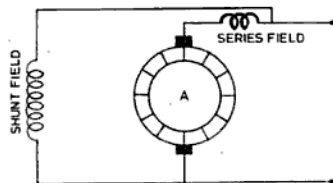
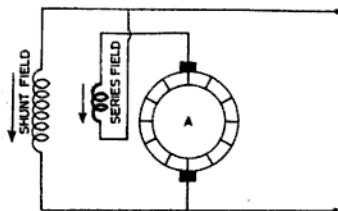

Fig. 7.25 Long-shunt compound generator
Fig. 7.26 Long-shunt commulative compound generator
- (ii) **Long Shunt Compound Generator** If the series winding is connected in series with the armature and then the shunt winding is put in parallel to the combination, as shown in Fig. 7.25 it is called a long shunt compound generator. In this case also, if the effect of both the field is additive, as shown in Fig. 7.26, it is called a long shunt commutative compound generator.